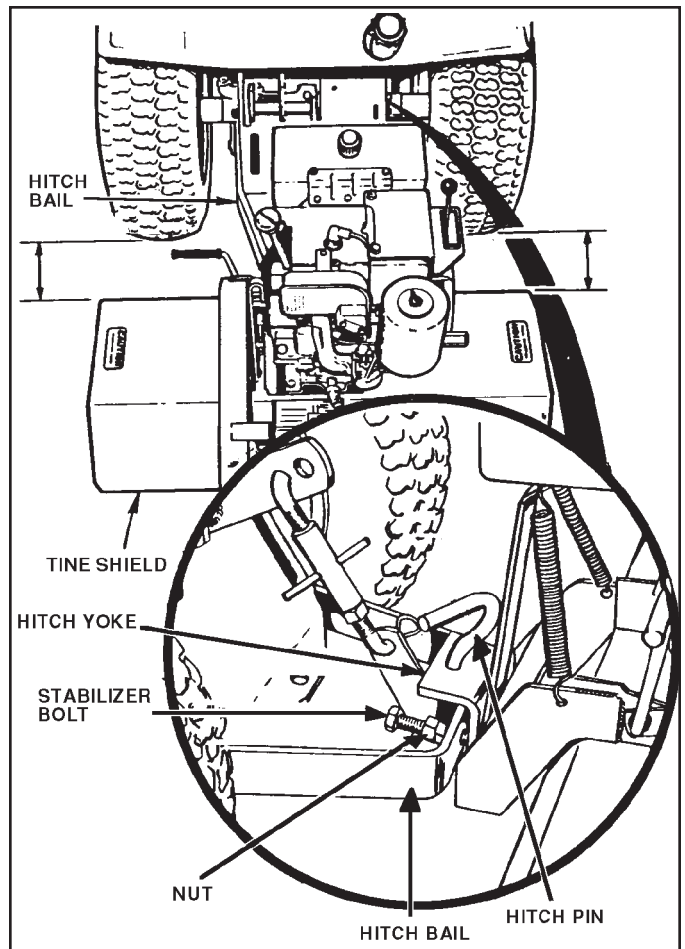

FIG. 2
- Adjust stabilizer bolts so that ends are about flush with rear of hitch bail (Fig. 2 - Inset). Leave nuts loose.
- Lower hitch assembly and slide hitch yoke of tiller (Fig. 2 - Inset) over hitch tube of sleeve hitch so that the hitch pin holes line up.
- Insert hitch pin until it extends from bottom of hitch yoke (Fig. 2 - Inset). Insert retainer spring into hitch pin.
- Tighten both stabilizer bolts against the hitch yoke until there is no looseness at the hitch point. (The frame assembly does not swing sideways relative to the hitch bail (Fig. 2). Be sure the frame assembly is perpendicular (square) to the centerline (direction of travel) of the tractor. This can be determined by measuring the distance between the edge of tine shield (Fig. 2) and the back of the rear tires. This distance should be the same on the R.H. and L.H. sides within 1/2 inch. Securely tighten the nuts on the stabilizer bolts.
**NOTE:** The stabilizer bolts should be loosened before removing the tiller from the tractor. This will make it easier to remove the hitch pin and to line up hitch pin holes when installing another attachment. If tractor is to be used without a rear attachment, the stabilizer bolt should be secured by tightening the nuts (Fig. 2-Inset).